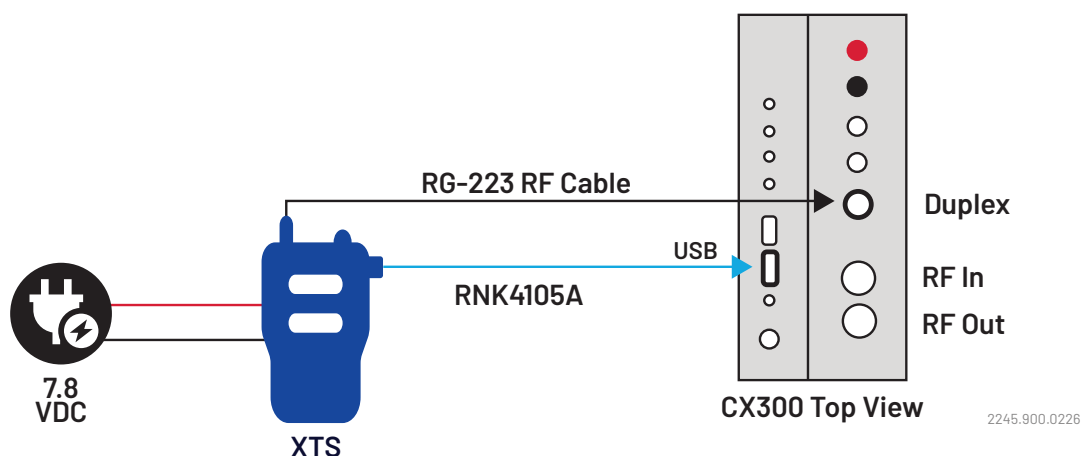

Figure 1. Portable Radio
1. Fig.1 is the connection information using Programming Cable: RNK4105A